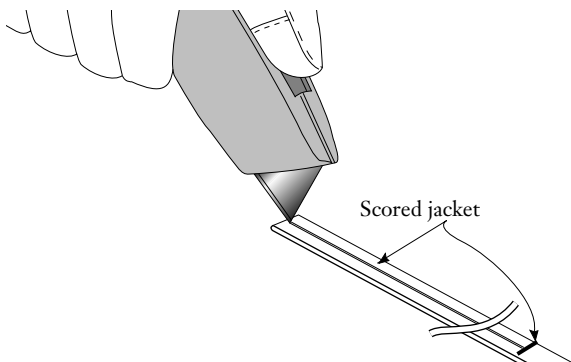

Figure 3
- a. Carefully *score* down the center of both flat sides of the marked length of jacket (Figure 3).